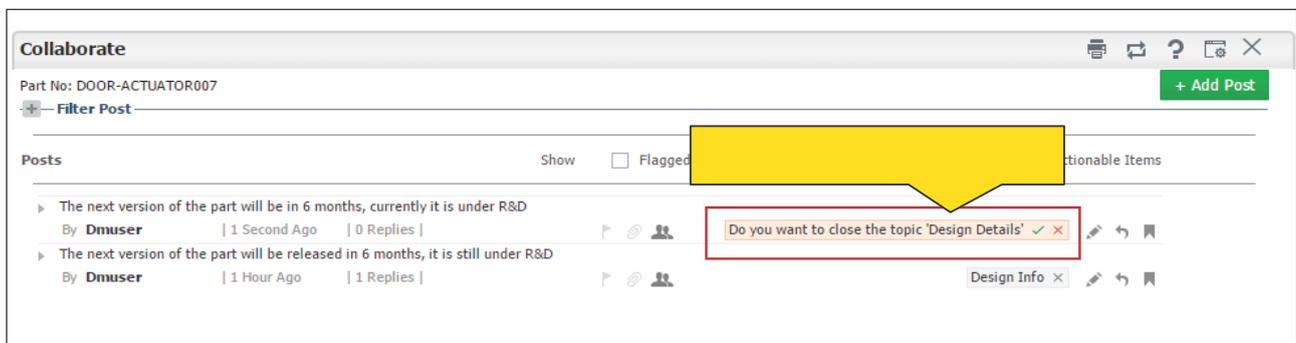

Figure 2.11 Creating formula
1. Select icon alongside the post which you wish to reopen. The system displays the option “Do you want to close the topic?” See Figure 2.11.